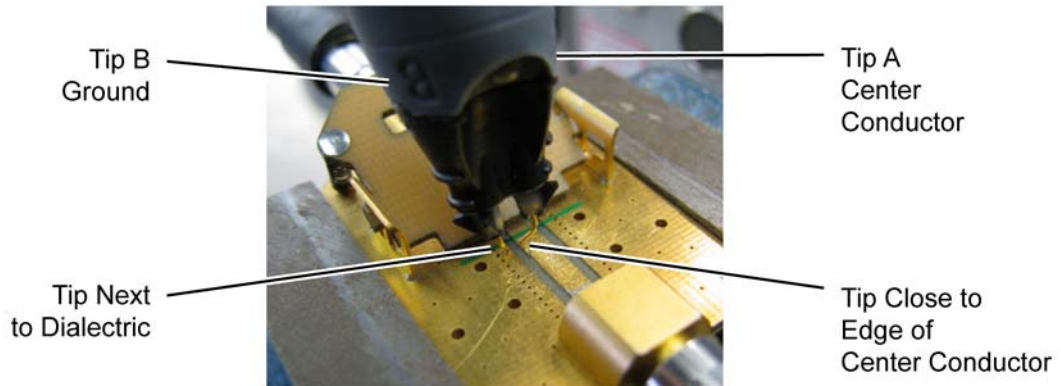

Figure 47 Close-Up Showing Tip Spacing and Position
- 17** Spread the probe tip's wires so that the tips are slightly wider than the gap between the signal trace and the ground on PV fixture. See Figure 47 on page 66.